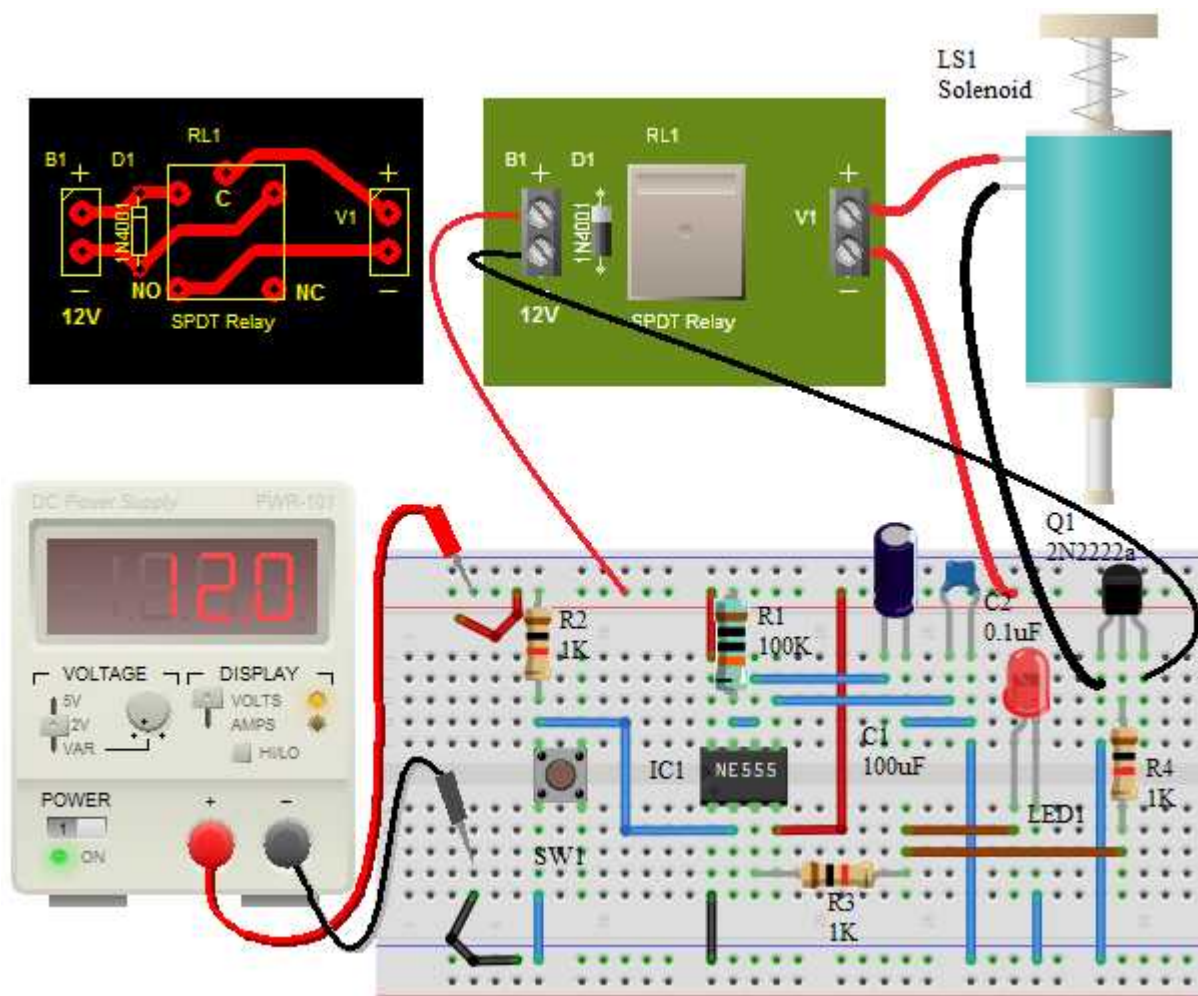

Figure 8-7: Monostable using 555 timer for driving a solenoid circuit connection
1. Connect the circuit as illustrated in figure 8-7. Connect power (positive) and ground (negative) to pins 8 and 1 of the 555 timer (red and black).